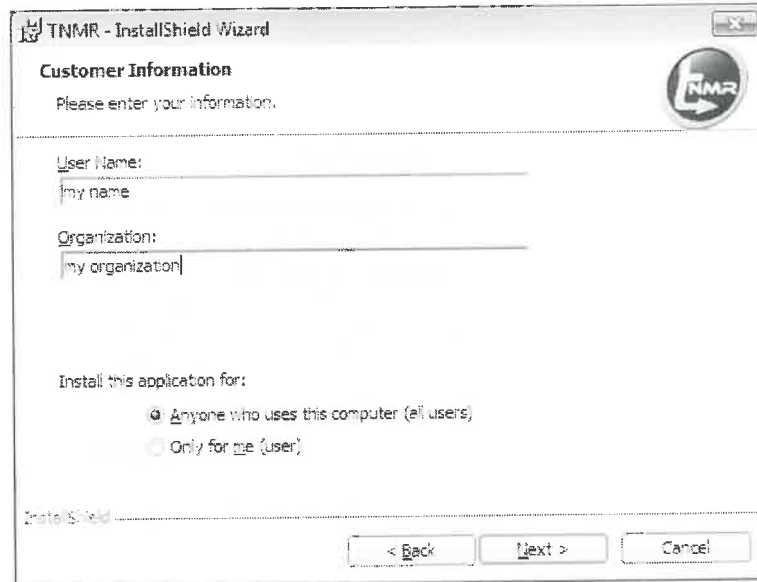

Figure 5
5. Enter user name and organization info; choose whether the application should be installed for all users of the computer or only the active user's account. Click Next (See Figure 5)